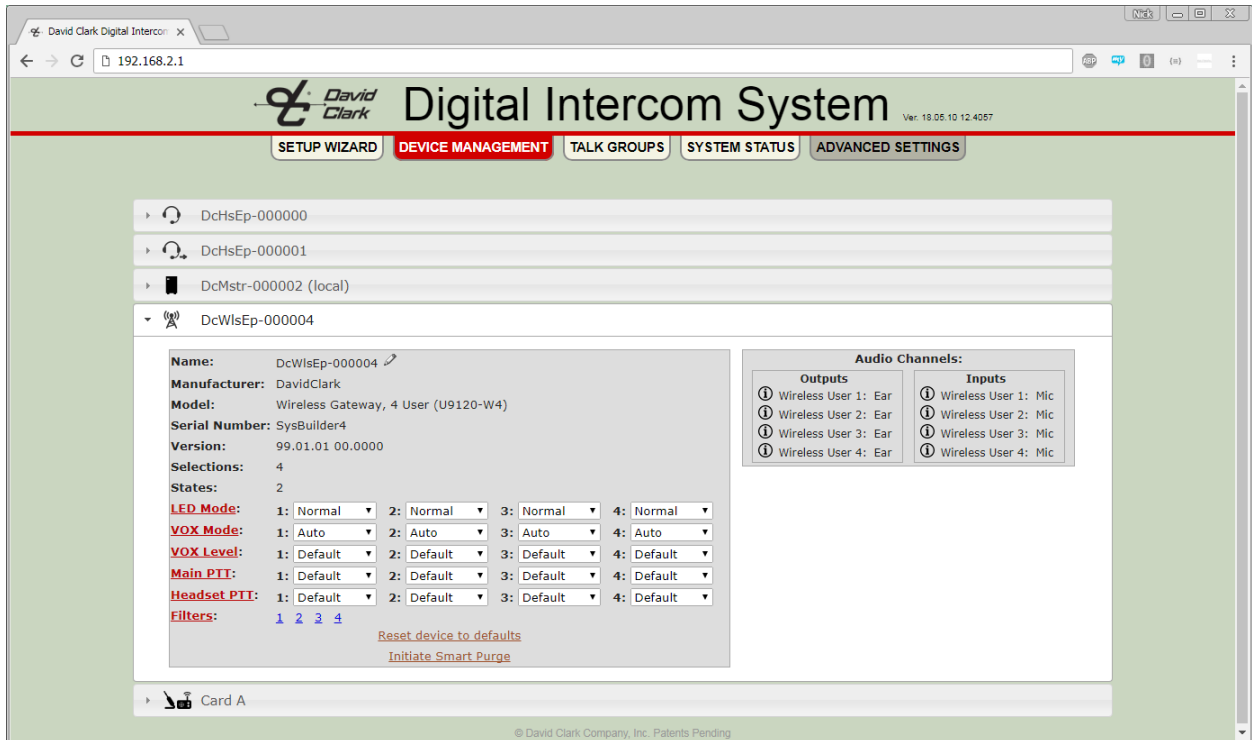

Figure 8.6.
3. A Headset Station or Wireless Gateway Station has the following configurable options, as shown in **Figure 8.6**. See Device Management on page 21 for details.
- LED Mode -- See **Figure 8.6.**
- VOX Mode – See **Figure 8.6.**
- VOX Level – See **Figure 8.6.**
- PTT Overrides – See **Figure 8.6.**
- Filters – See **Figure 8.6.**